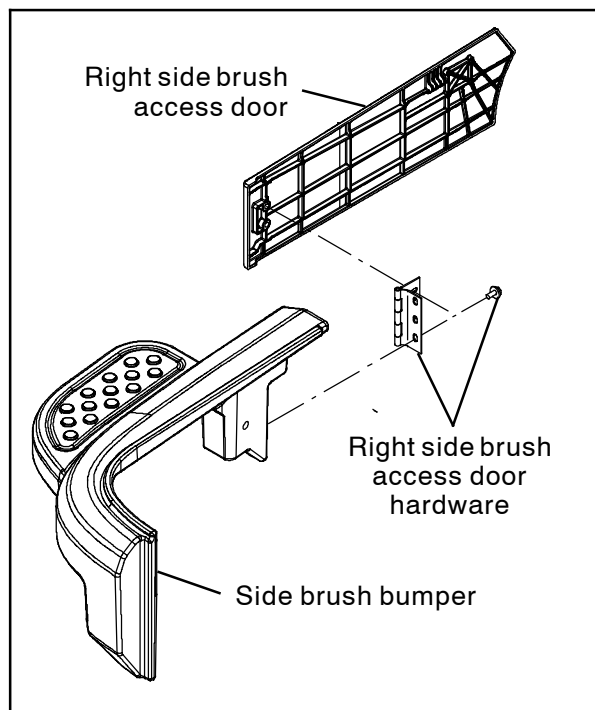

FIG. 31
58. Reinstall the right side brush access door onto the side brush bumper. (Fig. 31)